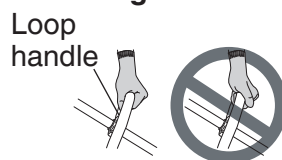

Fig. 25
- Place your thumb on the loop handle and grip the handle with your other fingers. (**Fig. 25**)